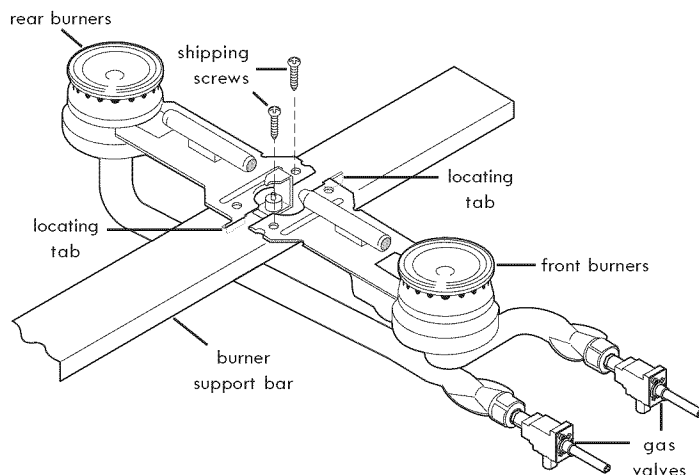

Fig. 1
2. Tilt burner so that the locating tab will slide into slot on the support bar. Make sure burners are **properly** seated on support bar and are **level** (See Fig. 1).